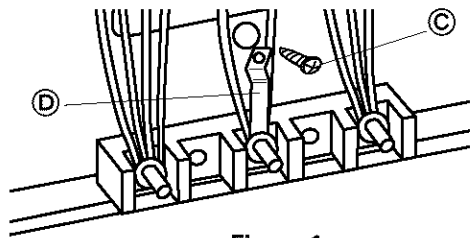

Figure 1
7. Remove the ground-link screw © from the range frame. Save the ground-link screw. Bend up the ground link © so that it does not contact the range. See Figure 1.